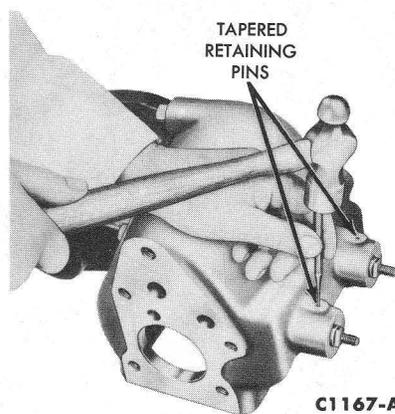

FIG. 4—Cam and Shaft Retaining Pin Removal
11. From the underside of the case, use a punch to drive out the tapered pins that hold the cam and shaft assemblies in the case (Fig. 4). **Use hard, firm blows.** Using a plastic hammer, drive the intermediate and high cam and shaft